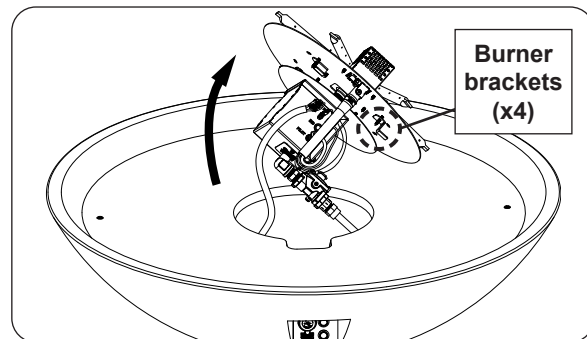

Fig. 49-1 Gain access to interior (if needed)
1. The burner will need to be partially removed. Remove all media. Use a  $\frac{5}{16}$ " nut driver to partially unfasten the 4 screws found on the burner assembly. Then carefully lift out the burner and set it off to the side. See Fig 49-1.